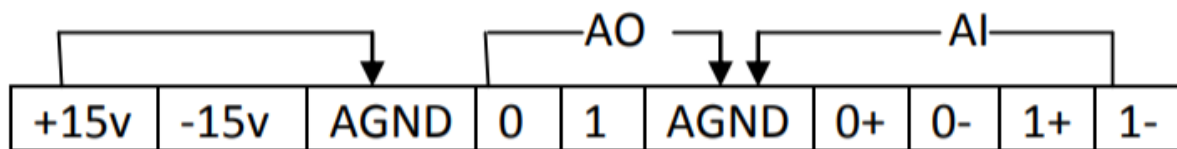

Figure 3. Depiction of analog portion of the myDAQ
The myDAQ has an interface on one side with +15V, -15V, Analog Output (AO), Analog Input (AI), and digital input/outputs. The part of the interface that will be used in this experiment is shown in Figure 3 below.